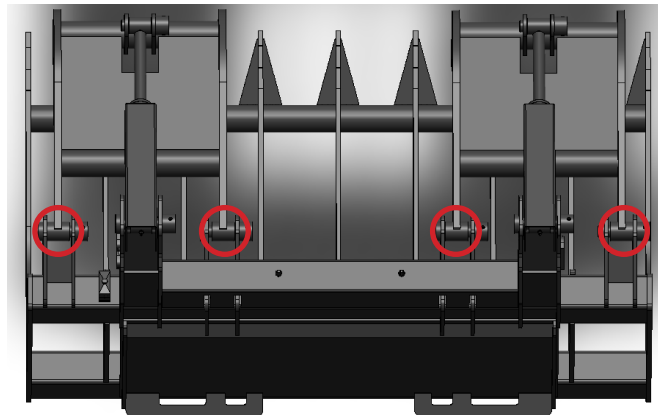

Figure 1
Both Heavy Duty Series 1 and Heavy Duty Series 2 have four (4) grease points. These points are circled in Figure 1.